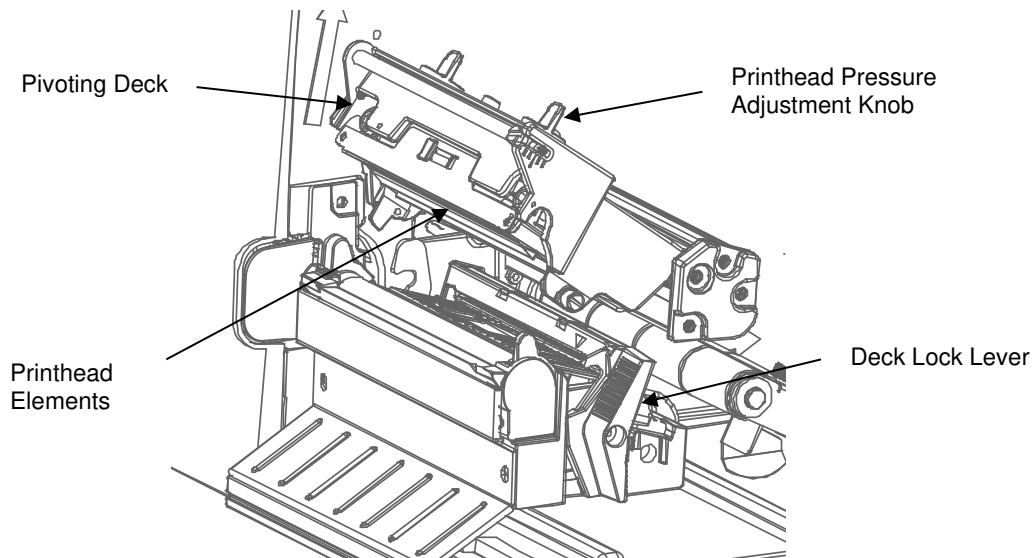

Figure 18 Opening the Pivoting Deck
3. Close the pivoting deck and rotate the deck lock lever fully counterclockwise. (Figure 18.)